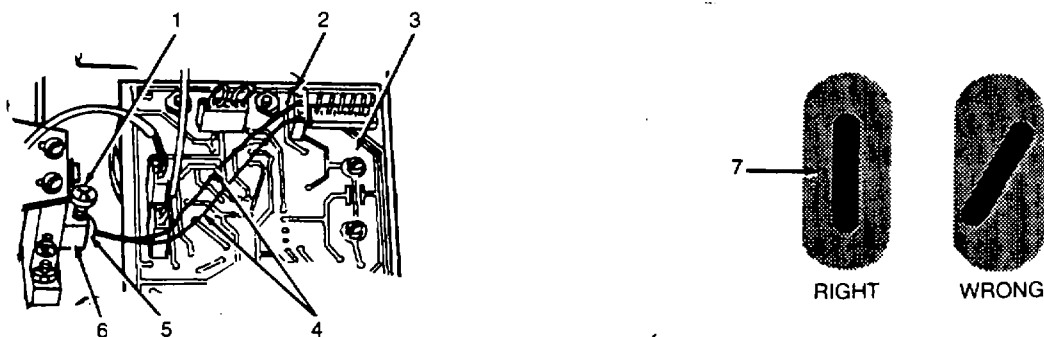

Figure 4-2. Adjusting Lamp.
- (1) Disconnect the lamp cable(4, fig. 4-2) from the amplifier board(3) at connection BC4(2).
- (2) Loosen the bulb setscrew(l) in the lamp holder(6) and extract the lamp(5).
- (1) Check bulb alignment by placing a piece of paper in the sample cell well(5, fig. 2-5) on the right hand wall. Turn the on/off toggle switch(12) to ON. Adjust the wavelength dial(8) to 550 nm to bring the bulb filament image into focus on the paper. If the image is dim, turn LIGHT CONTROL knob(10) to intensify light. Proper alignment gives an image of an oval completely enclosing a vertical filament image(7, fig. 4-2).
- (2) If alignment is required, remove front panel (see para 2.6.2.3).
- (3) Adjust the filament image by loosening the set screw(l) and rotating the lamp holder(6).
- (4) Replace front panel and ensure that the unit is properly connected. See para 2.6.2.3.a. for ac operation; see para 2.6.2.3.b. for dc operation.
- (5) Repeat steps (1) thru (4) above if further adjustment is required.